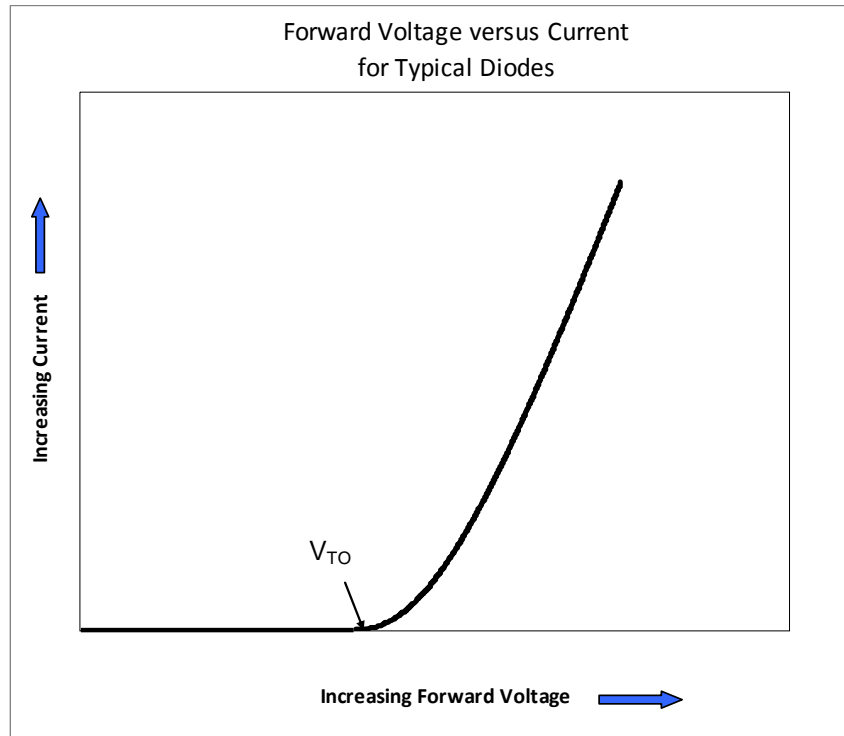

Figure 3: Threshold Voltage or Turn On Voltage for a typical diode
3. LEDs require a minimum voltage to be applied across the junction before current flows, generating light. This minimum voltage is commonly referred to as the threshold voltage or Turn On Voltage ( $V_{TO}$ ) as shown in Figure 3.